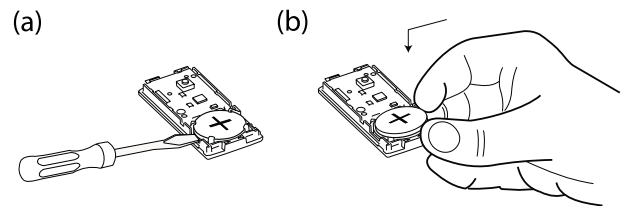

Figure 9: Battery removal and insertion
2. Wedge a flat head screwdriver under the battery. See Figure 9 (a).
1. Insert the battery at an angle while observing battery polarity. **Note:** When you insert the battery, the (+) symbol should be visible and not the (-) symbol. See Figure 9 (b).